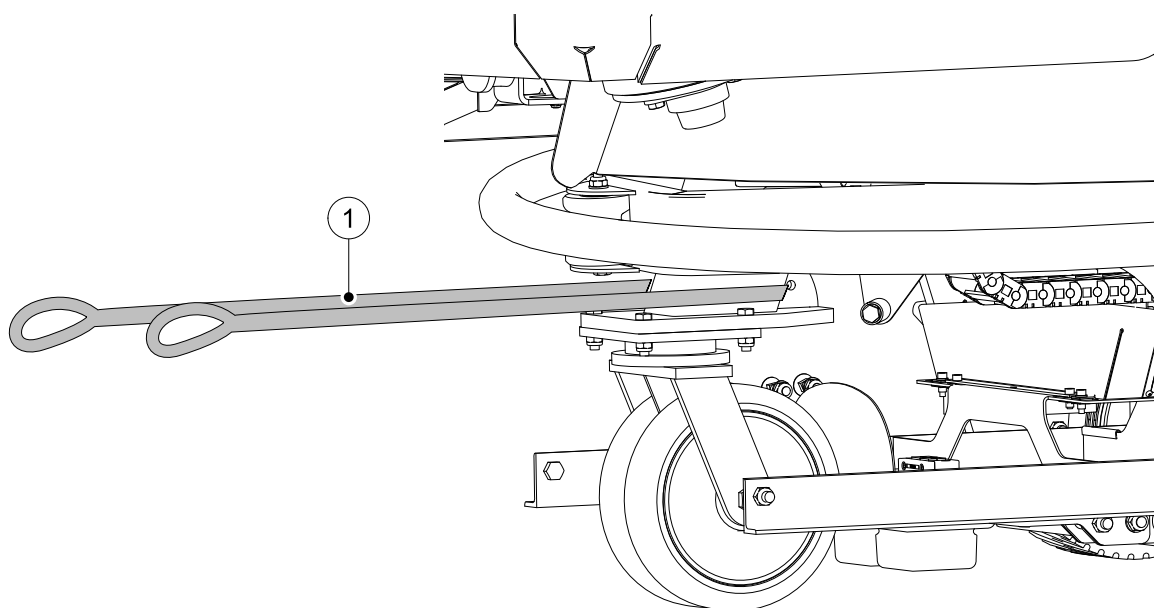

Figure 67. Tow a broken Mixing and Feeding Robot
4. Make sure the main switch (3) on the battery is switched to the "On" position.
Attach a tow rope (1) (see figure 67 on page 7-23) on the frame of the Mixing and Feeding Robot above the swivel caster, make sure the rope can not damage any sensors.